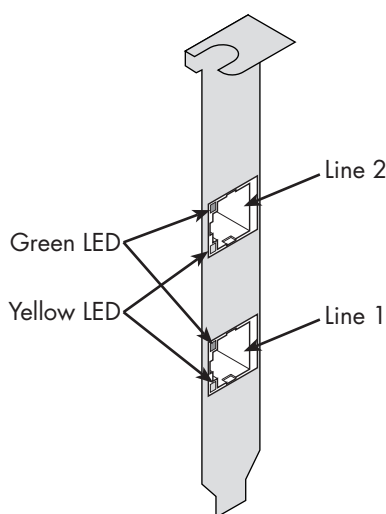

Figure 5. PE1 & PE2 Connector Locations
The position of the PRI connectors is shown in figure 5.
9. Connect the PRI line(s) to the adapter. If the adapter is a RAS PE1, only Line 1 (see figure 5 on page 34) is active. If the adapter is a RAS PE2, two PRI lines are supported and both connectors may be used.